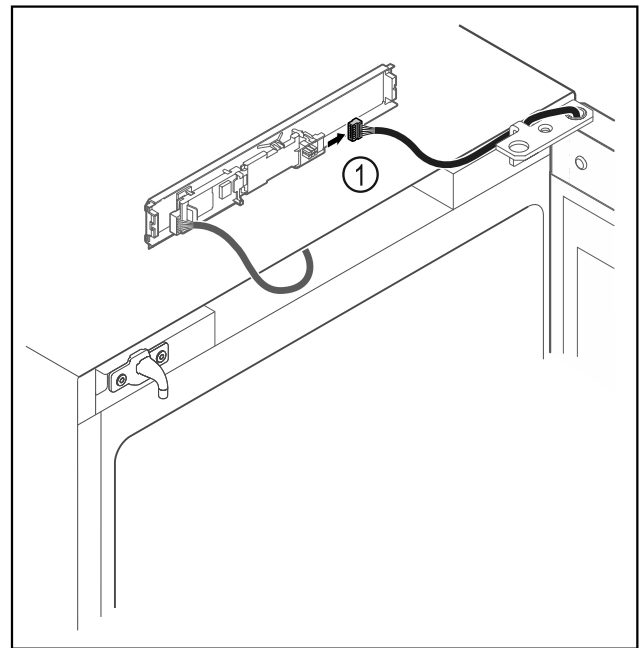

Fig. 15
- Disconnect the plug Fig. 15 (1) from the circuit board.